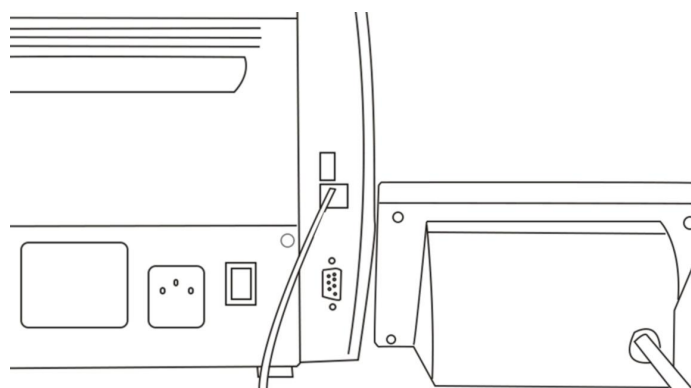

Figure 67
4) At the same time, the folder stored in the upper computer will automatically generate a Data folder “Data”. Open the “Data” folder to find the corresponding list information, as shown in Figure 67 below.